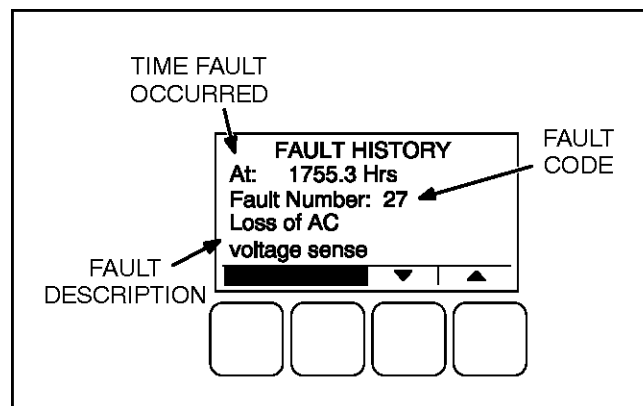
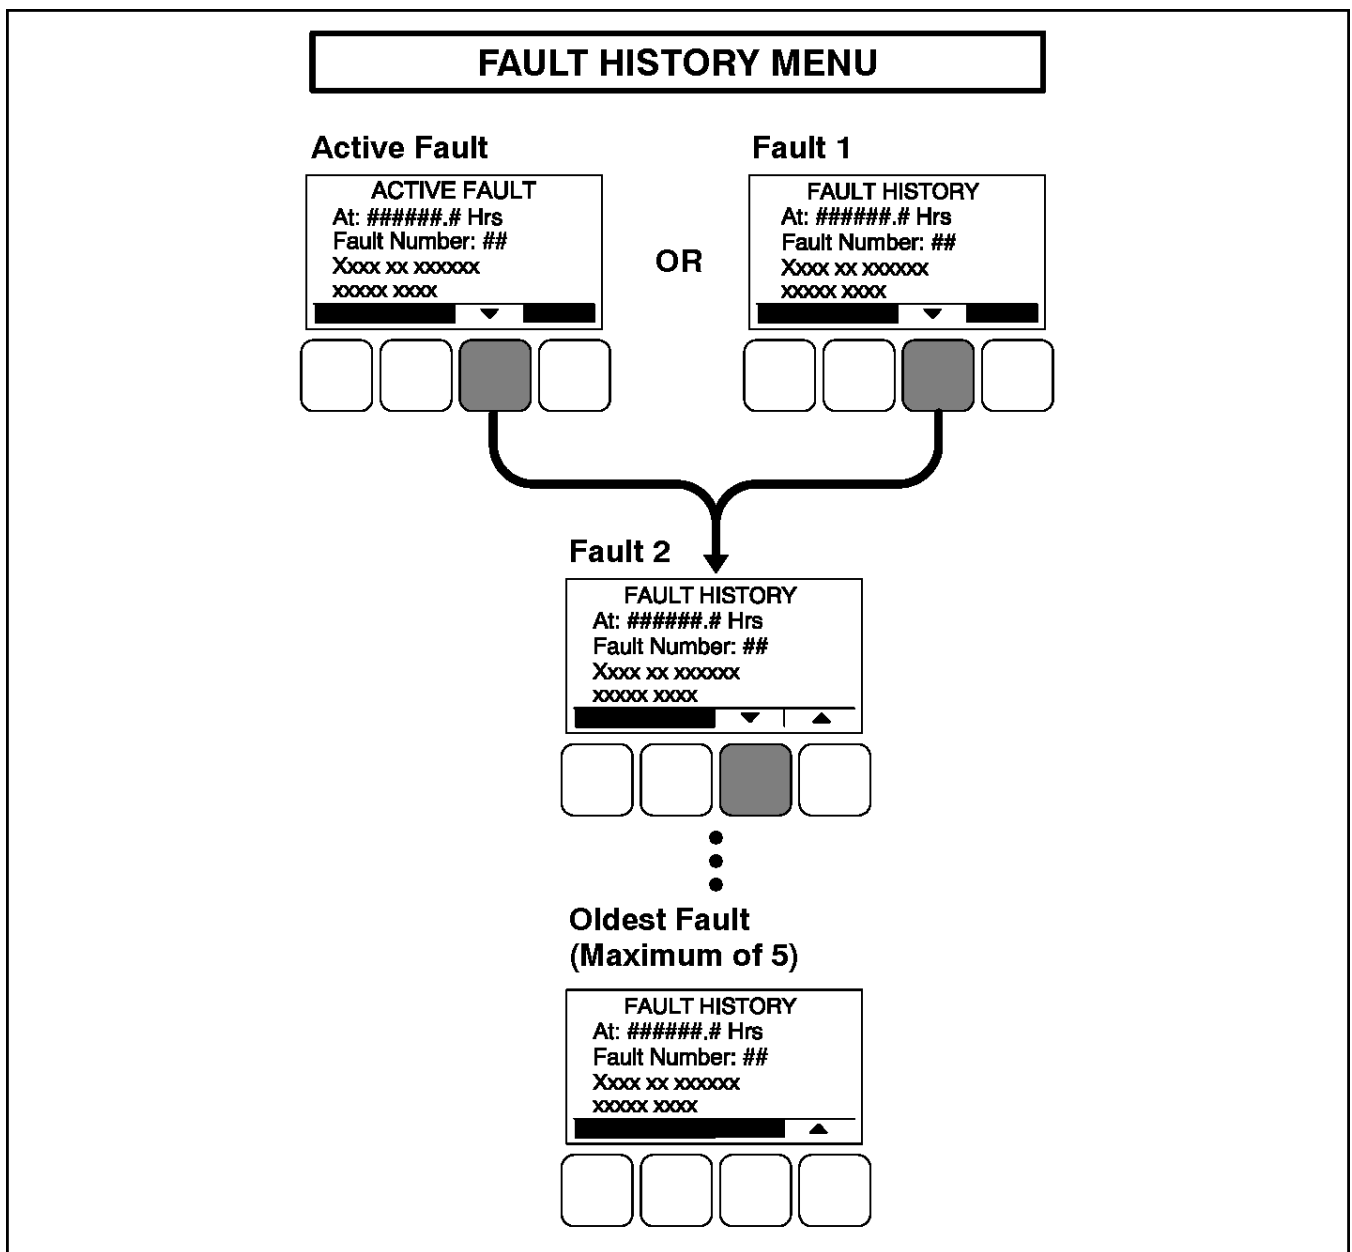

FIGURE 20. FAULT HISTORY MENU EXAMPLE
FIGURE 21. FAULT HISTORY MENU
Figure 21 on page 45 shows a block representation of the Fault History menu. The first Fault menu is displayed when the (4) button is pressed on the second Service Menu. If there are any active fault submenus, an "Active Fault" heading is displayed for the most recent active fault. All other fault submenus display a "Fault History" heading. Five of the most recent faults can be viewed. An example of how a fault code is displayed is shown in Figure 20 on page 44.